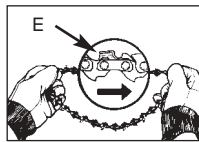

Fig. 3C
- Spread the chain out with the cutting edges (E) of the chain pointing in the DIRECTION OF ROTATION. (See Fig. 3C)